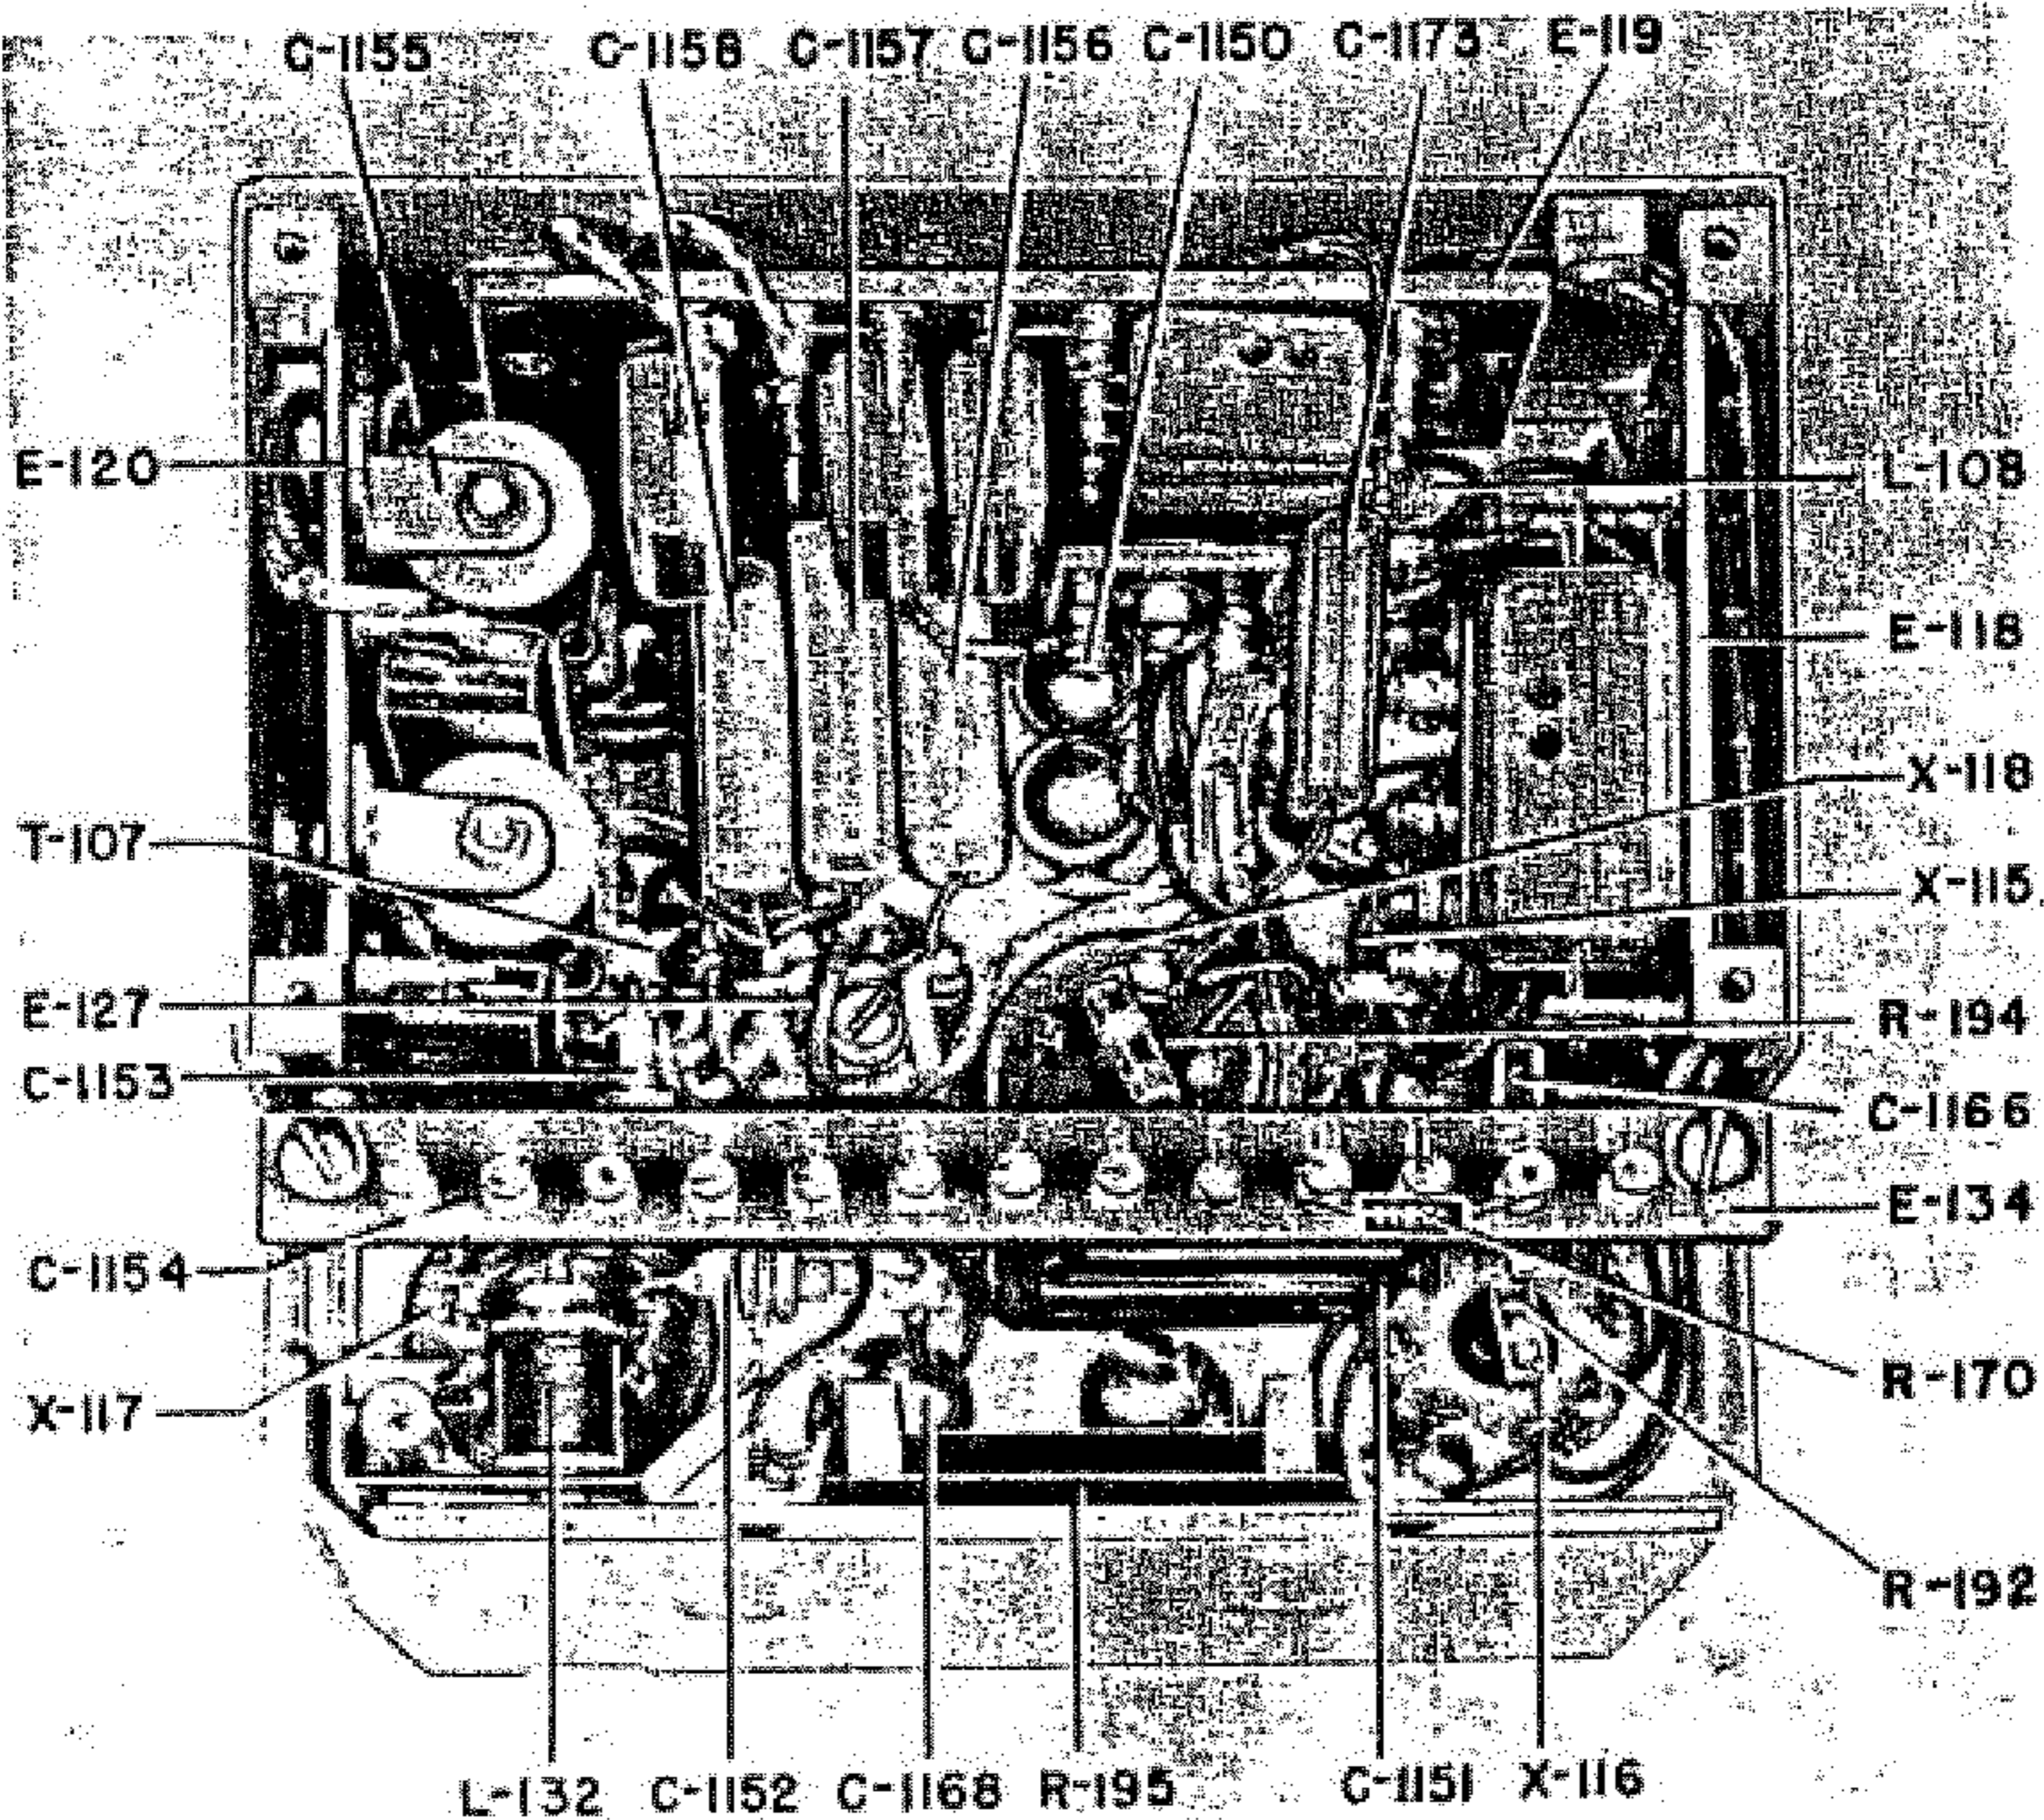

Figure 5-14. Vibrator Inverter Unit Y-101, Used in Radio Compass Unit R-101/ARN-6, Bottom View
(2) With the function switch in "LOOP" position, check for the presence of +26.5 volts DC input voltage at terminal 9 of the power supply terminal strip. If no voltage is present, check the switch contacts on relay K-102 and connecting wiring. Should the input voltage to power supply be normal check L-108 and L-132 in the vibrator power supply. (See figure 5-14 or 5-15.) Also check wiring and socket connections to the vibrator socket X-117.
(3) If vibrator is operating and loop will not rotate manually with the "LOOP L-R" switch substitute a control box known to be in working order and test operation of equipment. Should equipment fail to operate, proceed according to paragraph 3.b(5) below. If the equipment operates satisfactorily, proceed as follows.
(4) Remove defective control box and check wiring, switch contacts, and components in the manual loop drive circuits.
(5) Make continuity checks through connecting cables and junction board in receiver mounting. With the function switch in "LOOP" position, make voltage checks in the receiver mounting. (See table 5-2.) When making voltage checks in the receiver mounting, it will be necessary to remove the receiver from its mounting and connect receiver to mounting by means of Special Purpose Cable CX-1021/ARN-6, designed for this use. By using this test cable it is possible to gain access to the bottom of the receiver and its mounting while the equipment is operating. Check for the 100 cycle-per-second AC voltage from terminals 38 and 39 to ground. This voltage should be approximately 90 volts AC with the "LOOP L-R" switch in neutral position. If voltage is incorrect, make continuity checks between terminals 38, 39, and 21 in the receiver mounting, to terminals B, C, and E, respectively, on the vibrator power supply terminal board. Also, check for the 100 cycle-per-second voltage from terminals B and C on the vibrator power supply terminal board to ground. The AC voltage should be approximately 90 volts. If the voltage is not present, check transformer T-107, L-135, R-189, R-188, and connecting wires. If vibrator power supply is defective, it may be replaced as a unit. [See paragraph 5.a(5), this section, for replacement instructions.] If vibrator power supply voltages are correct, proceed as follows.
(6) Make continuity checks of the loop drive motor and connecting cables. For resistance readings in Loop AS-313/ARN-6, AS-313A/ARN-6, or AS-313B/ARN-6 see table 5-8. If resistance readings are incorrect, substitute a loop known to be in working order and test the equipment for proper operation.